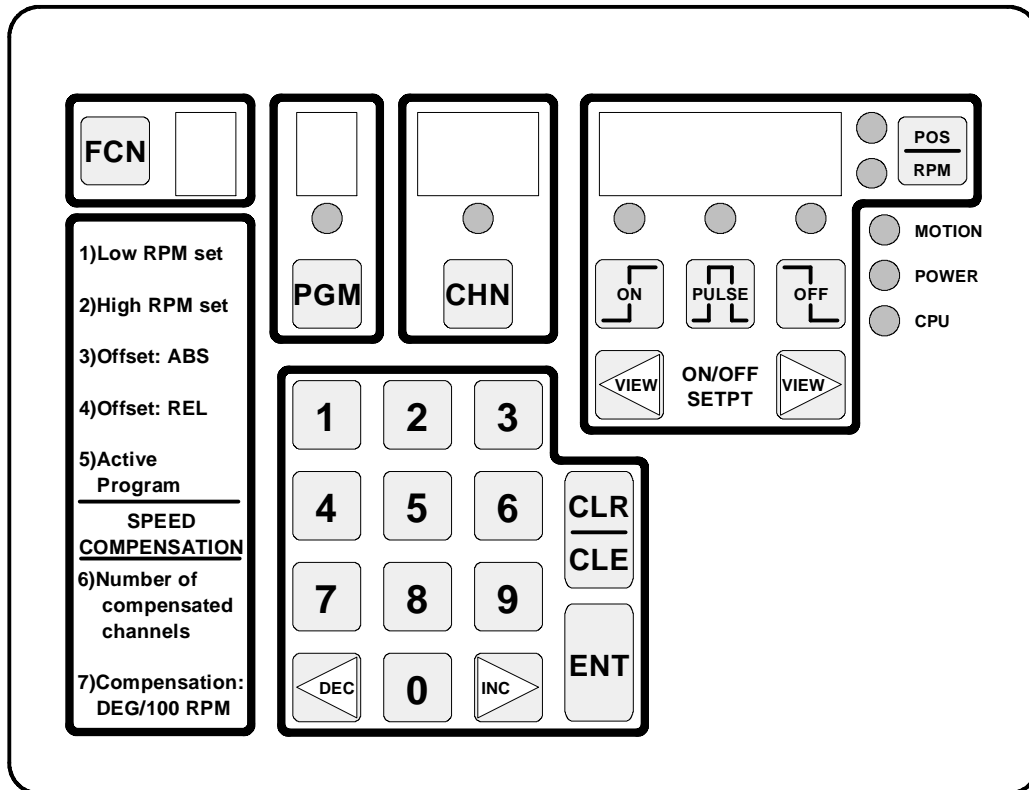

Figure 3.1 PLuS Controller Keyboard
The keyboard pictured above in Figure 3.1 corresponds to the PS-4001 and PS-4011 models. The PS-4000 is identical except that the Function label (items 1-7 beneath the FCN key) does NOT include items 5-7. (The PS-4000 does not allow the active program to be selected from the keyboard and does not have Speed Compensation)